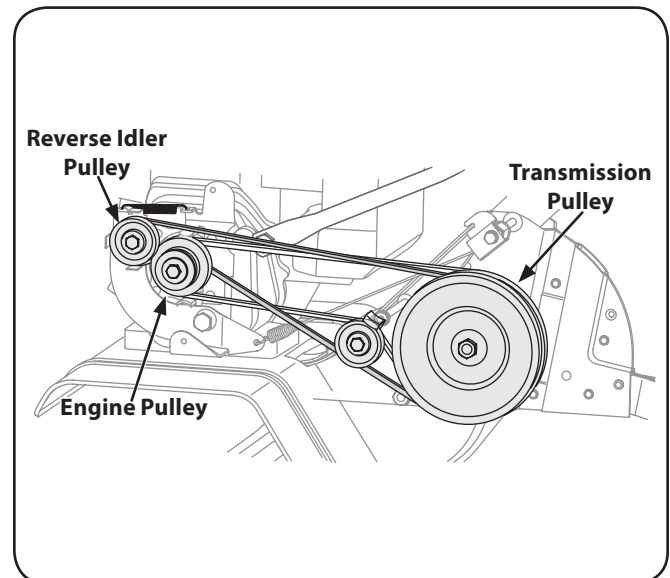

Figure 7-2
3. Remove belt from transmission pulley and then from around the reverse idler pulley. See Fig. 7-2.
4. To reassemble the new belt, follow the instructions in reverse order. Be sure to place the wider side of the belt against transmission and idler pulley while slimmer side goes over the engine pulley. See Fig. 7-2.
NOTE: Upon reassembly, make certain the belt is routed over the idler pulley and inside of belt keepers by engine pulley. See Fig. 7-2.